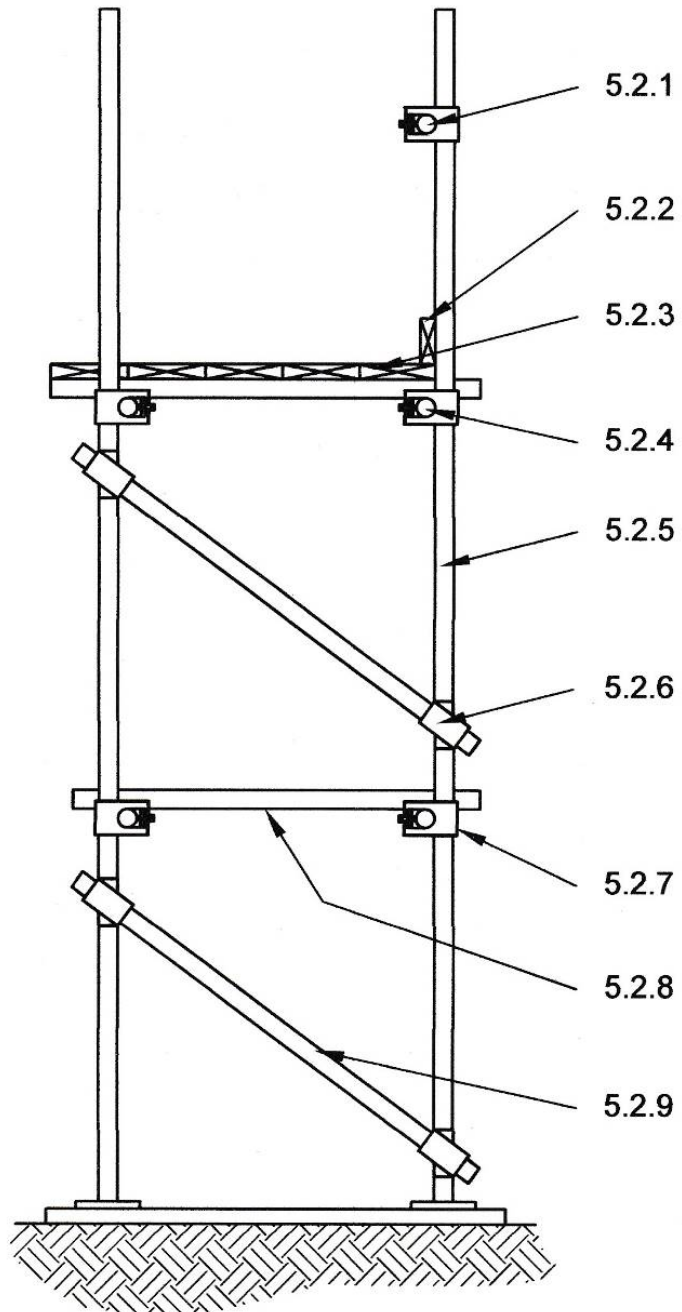

FIGURE 1
5.2 DIAGRAM SHEET 1, FIGURE 1, shows a scaffolding system.